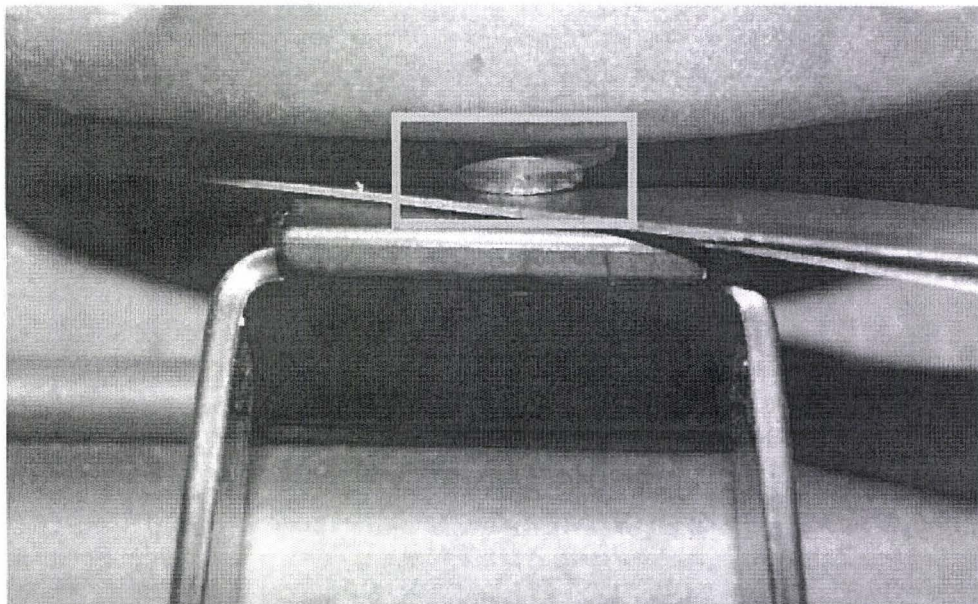

Figure 9
-The shoulder of the switch should contact the feeler blades, at this point the switch plunger should not be visible (Figure 9)